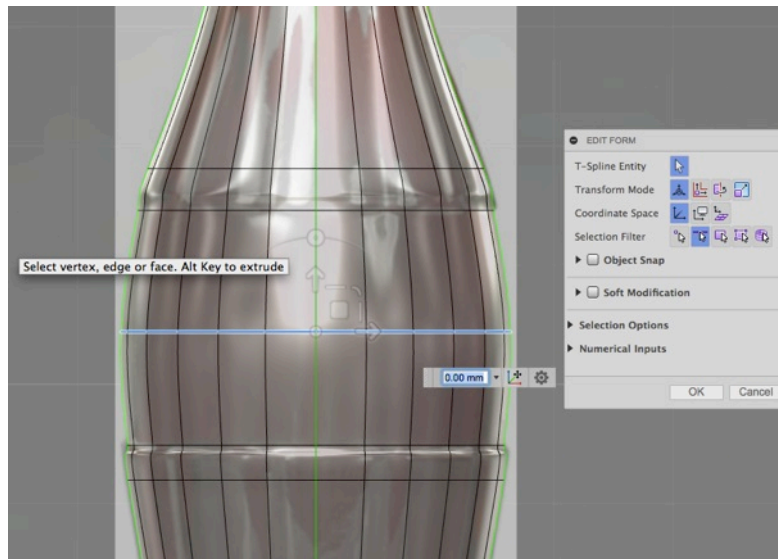

Fig. B06
- c. Switch selection filter to “edge” and move/scale the edges to refine the ribbon (Fig. B06). \*\*Note: make sure you double-click each edge to select the whole chain.